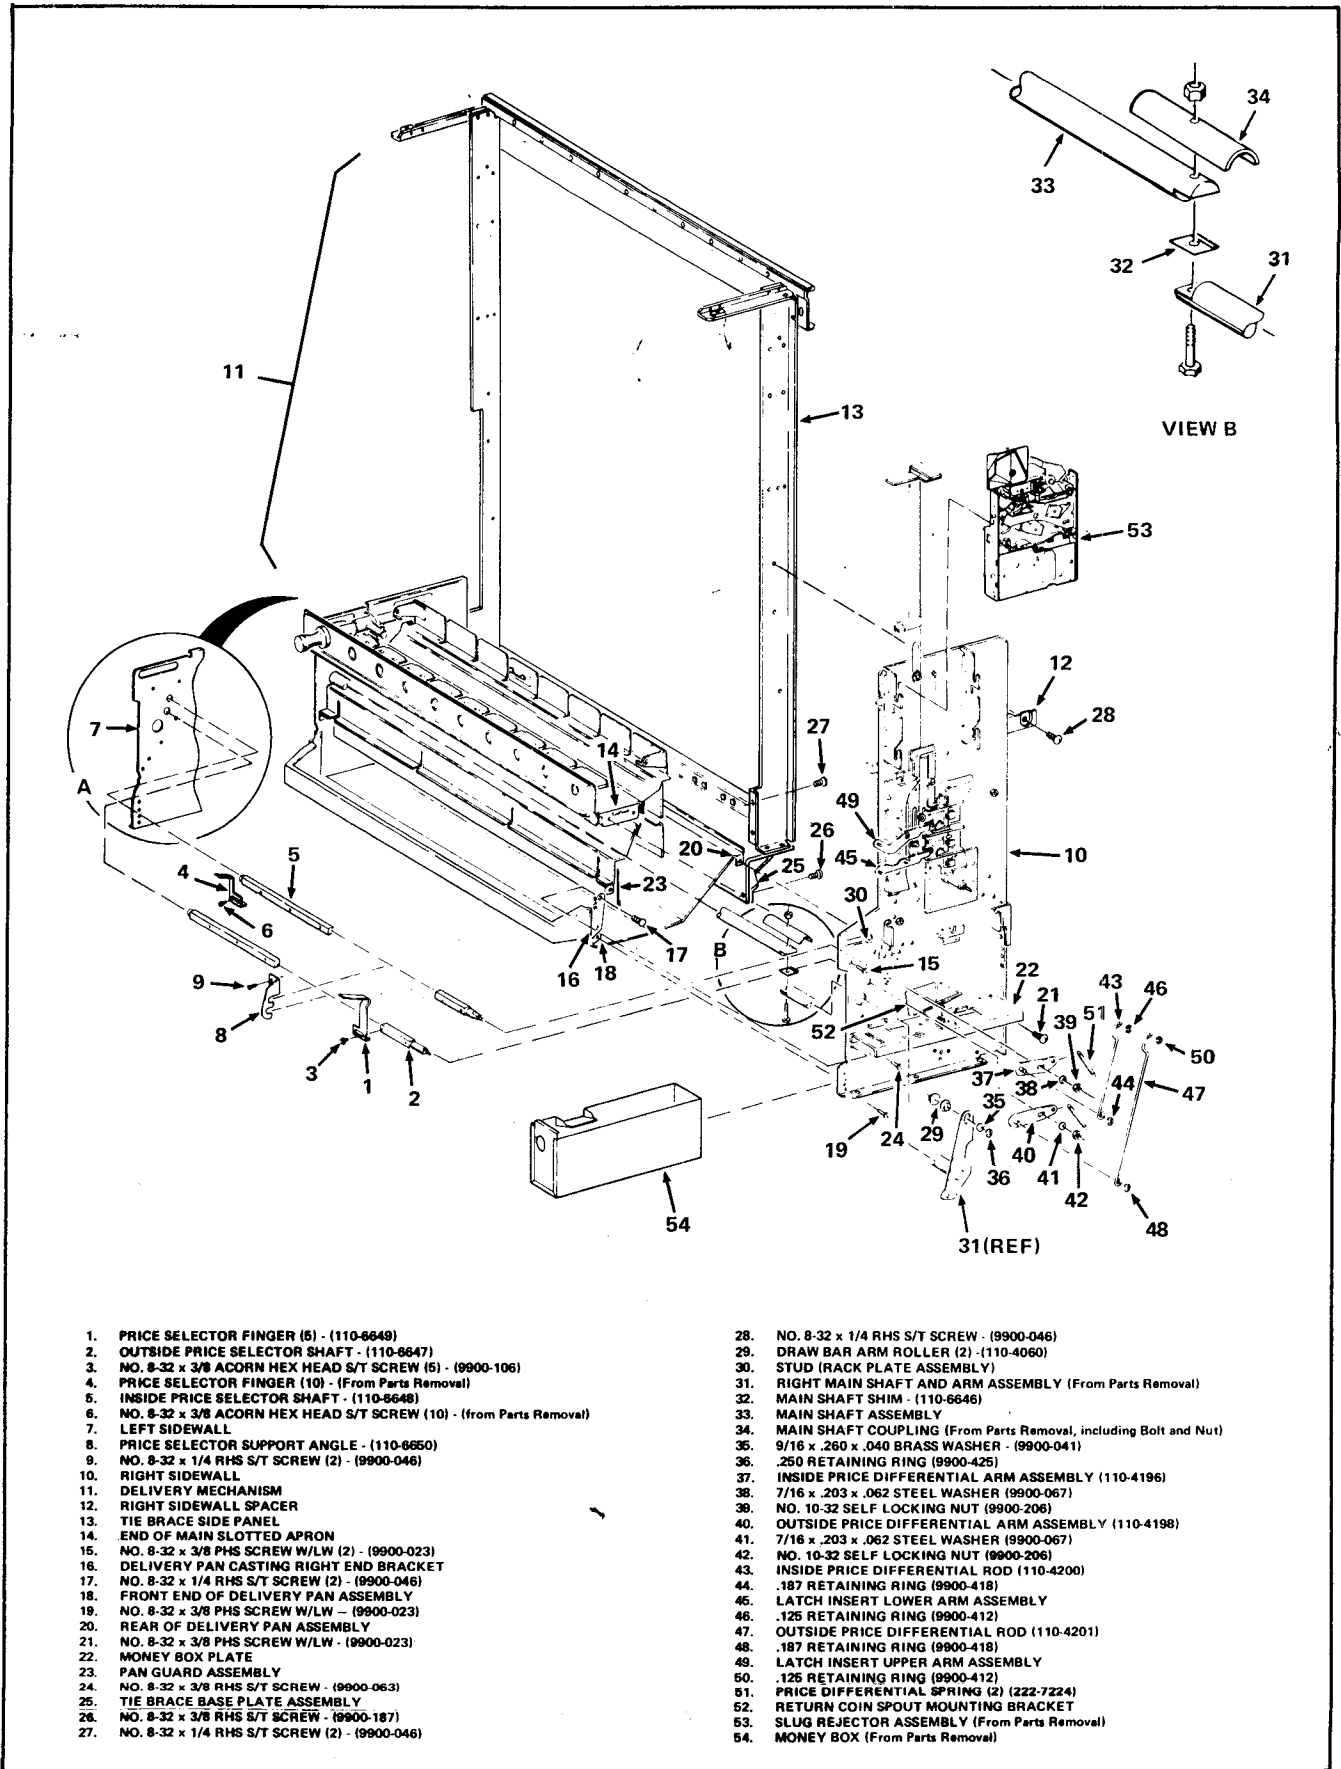

FIGURE 4-3
Be sure the threaded ends of both Price Selector Shafts are positioned to the right and the Price Selector Fingers are installed in the up position, as shown in Figure 4-3.
11. Install the five Price Selector Fingers, Part Number 110-6649, on the Outside Price Selector Shaft, Part Number 110-6647, using five No.8-32 x 3/8 Acorn Hex Head Self Tapping Screws, Part Number 9900-106, all included in the Kit. See Figure 4-3.
12. Install the ten Price Selector Fingers removed in the Parts Removal Procedure, on the Inside Price Selector Shaft, Part Number 110-6648, included in the Kit, using the ten No.8-32 x 3/8 Acorn Hex Head Self Tapping Screws, also retained from the Parts Removal Procedure. See Figure 4-3.
13. Install the non-threaded end of the Inside Price Selector Shaft in the top inside hole in the Left Sidewall. See View A of Figure 4-3.
14. Install the non-threaded end of the Outside Price Selector Shaft in the lower outside hole in the Left Sidewall. See View A of Figure 4-3.
15. Install the Price Selector Support Angle, Part Number 110-6650, on the Pan Guard Assembly, fitting the two notches of the Angle around the two Price Selector Shafts, as shown in Figure 4-3, and attach the Angle to the Pan Guard Assembly using two No.8-32 x 1/4 RHS Self Tapping Screws, Part Number 9900-046, all included in the Kit. See Figure 4-3.
16. Install the Right Sidewall on the Delivery Mechanism by first fitting the two holes in the Right Sidewall over the threaded ends of the two Price Selector Shafts. Check that the hole in the Right Sidewall Spacer lines up with the correct Screw hole in the Tie Brace Side Panel. Attach the Right Sidewall to the end of the Main Slotted Apron using two No.8-32 x 3/8 PHS Screws with Lockwashers, Part Number 9900-023, included in the Kit. See Figure 4-3.
17. Fit the Delivery Pan Casting Right End Bracket over the Right Sidewall and align the two holes in the Bracket with the two holes in the Sidewall. Attach the two parts using two No.8-32 x 1/4 RHS Self Tapping Screws, Part Number 9900-046, included in the Kit. See Figure 4-3.
18. Attach the front edge of the Right Sidewall to the front end of the Delivery Pan Assembly using a No.8-32 x 3/8 PHS Screw with Lockwasher, Part Number 9900-023, included in the Kit. See Figure 4-3.
19. Attach the rear part of the Right Sidewall to the rear of the Delivery Pan Assembly, using a No.8-32 x 3/8 PHS Screw with Lockwasher, Part Number 9900-023, included in Kit. See Figure 4-3.
20. Attach the front end of the Money Box Plate to the Pan Guard Assembly using a No.8-32 x 3/8 RHS Self Tapping Screw, Part Number 9900-063, included in the Kit. See Figure 4-3.
21. Attach the lower rear edge of the Right Sidewall to the Tie Brace Base Plate Assembly using a No.8-32 x 3/8 RHS Self Tapping Screw, Part Number 9900-187, included in the Kit. See Figure 4-3.
22. Attach the lower end of the right Tie Brace Side Panel to the Right Sidewall using two No.8-32 x 1/4 RHS Self Tapping Screws, Part Number 9900-046, included in the Kit. See Figure 4-3.
23. Attach the Right Sidewall Spacer to the middle of the Tie Brace Side Panel using a No.8-32 x 1/4 RHS Self Tapping Screw, Part Number 9900-046, included in the Kit. See Figure 4-3.
1. Be sure the Price Selector Shafts are in the proper holes on the Left Sidewall. See View A of Figure 4-3.
25. Install two Draw Bar Arm Rollers, Part Number 110-4060, included in the Kit, over the Stud on the arm of the Rack Plate Assembly, protruding through the slot in the Right Sidewall. See Figure 4-3.
26. Insert the Right Main Shaft and Arm Assembly, removed in the Parts Removal Procedure, through the hole in the Right Sidewall and fit the slotted end of the Arm Assembly over the Stud on the arm of the Rack Plate Assembly. See Figure 4-3.
1. Be sure the Main Shaft Shim in the next step is positioned as shown in View B of Figure 4-3, with the lip facing up and toward the rear.
27. Install the Main Shaft Bolt through the Right Main Shaft and Arm Assembly, the Main Shaft Shim, Part Number 110-6646, included in the Kit, the left Main Shaft Assembly and the Main Shaft Coupling and secure these parts with a No.10-32 Nut. See View B of Figure 4-3.
28. Attach the slotted end of the Arm of the Right Main Shaft and Arm Assembly to the Stud on the arm of the Rack Plate Assembly using a 9/16 x .260 x .040 Brass Washer, Part Number 9900-041 and a .250 Retaining Ring, Part Number 9900-425, both included in the Kit. See Figure 4-3.
29. Install the Inside Price Differential Arm Assembly, Part Number 110-4196, included in the Kit, on the shoulder of the end of the Inside Price Selector Shaft, with the stud on the Arm facing away from the Right Sidewall and toward the front; then, secure with a 7/16 x .203 x .062 Steel Washer, Part Number 9900-067, and a No.10-32 Self Locking Nut, Part Number 9900-206, both included in the Kit. See Figure 4-3.
30. Install the Outside Price Differential Arm Assembly, Part Number 110-4198, included in the Kit, on the shoulder of the end of the Outside Price Selector Shaft with the stud on the Arm facing away from the Right Sidewall and toward the front; then, secure with a 7/16 x .203 x .062 Steel Washer, Part Number 9900-067, and a No.10-32 Self Locking Nut, Part Number 9900-206, both included in the Kit. See Figure 4-3.
31. Install the straight end of the Inside Price Differential Rod, Part Number 110-4200, included in the Kit, over the stud on the Inside Price Differential Arm Assembly and attach the parts with a .187 Retaining Ring, Part Number 9900-418, included in the Kit. See Figure 4-3.
32. Install the other end of the Inside Price Differential Rod over the stud on the Latch Insert Lower Arm Assembly and attach the parts with a .125 Retaining Ring, Part Number 9900-412, included in the Kit. See Figure 4-3.
33. Install the straight end of the Outside Price Differential Rod, Part Number 110-4201, included in the Kit, over the stud on the Outside Price Differential Arm Assembly and attach the parts with a .187 Retaining Ring, Part Number 9900-418, included in the Kit. See Figure 4-3.
34. Install the other end of the Outside Price Differential Rod over the stud on the Latch Insert Upper Arm Assembly and attach the parts with a .125 Retaining Ring, Part Number 9900-412, included in the Kit. See Figure 4-3.
Coin Spout Mounting Bracket. Similarly attach the other Spring to the Outside Price Differential Arm Assembly and the lower hole in the Return Coin Spout Mounting Bracket. See Figure 4-3.
43. Install the Slug Rejector Assembly removed in the Parts Removal Procedure on the Right Sidewall. See Figure 4-3.
52. Install the Money Box. See Figure 4-3.